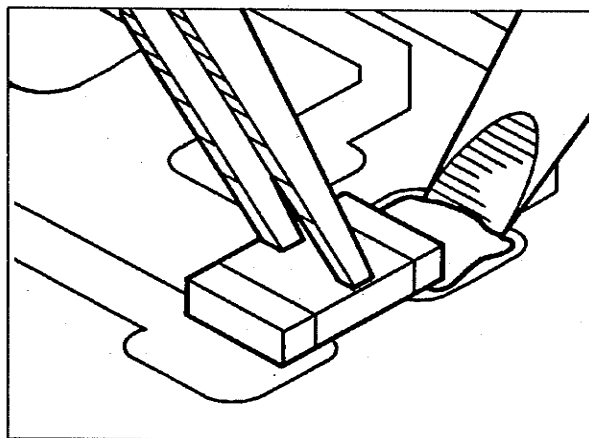

Figure 3 - 3
- With one component end tacked to hold it, the other end can be soldered. Carefully apply heat to the PC pad while adding only enough fresh solder to produce a clean fillet as in Figure 3 - 4 — do not apply too much solder, otherwise it may flow underneath and short the pads together. Let the hot solder flow onto the component—do not touch the component with the iron. Repeat to finish the other end of the component. Solder must adhere to all metallic end-surfaces on both ends as shown in Figure 3 - 5.